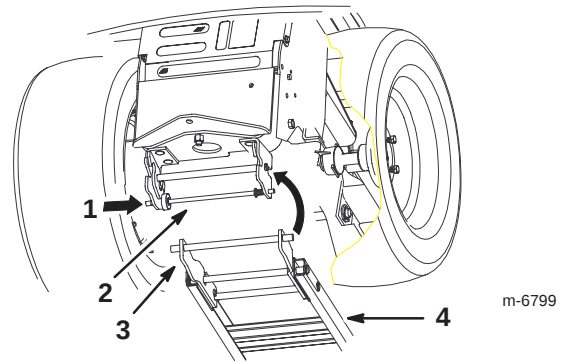

Figure 17
7. Push the end of the latch rod to open the latches on the rear Attach-A-Matic hitch (Fig. 17).